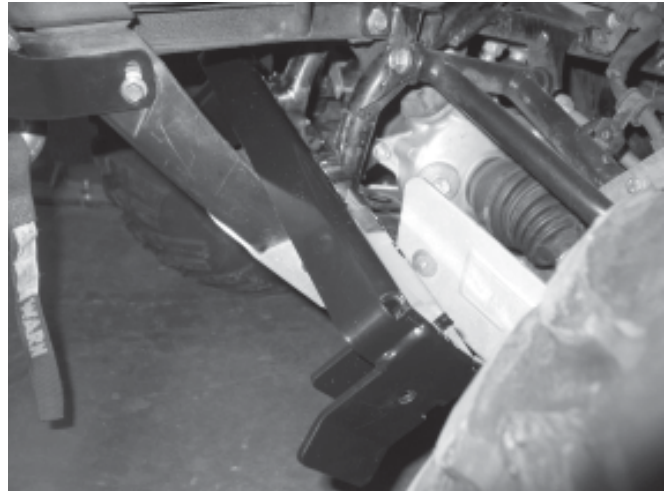

Figure 2
2. Slide front plow mount through vehicle frame in orientation as shown in Figure 2. Rotate the mount as required to provide adequate clearance.